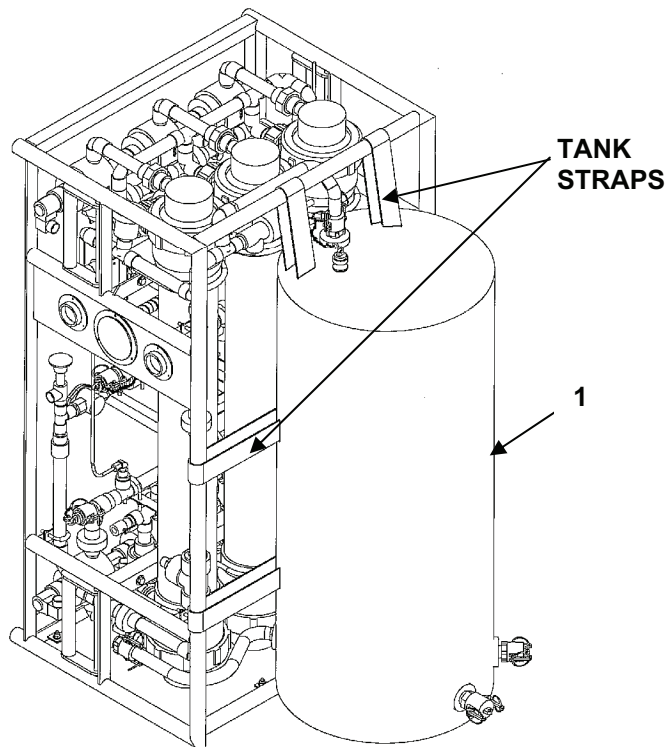

Figure 1. UF Filtrate Tank.
1. Ensure that the filtrate tank (Figure 1, Item 1) is drained. Remove the straps from the module frame.